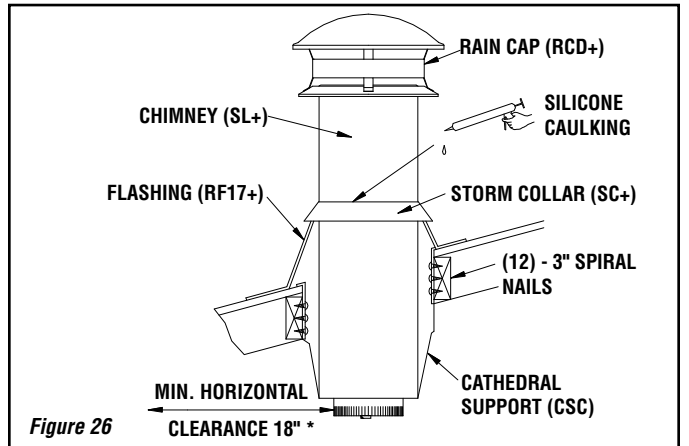

Figure 26
Using a level, make sure the support is vertical. If the support extends above the roof, cut it flush with the top of the roof. Nail the support to the framed opening using (12)-3" spiral nails (figure 26).